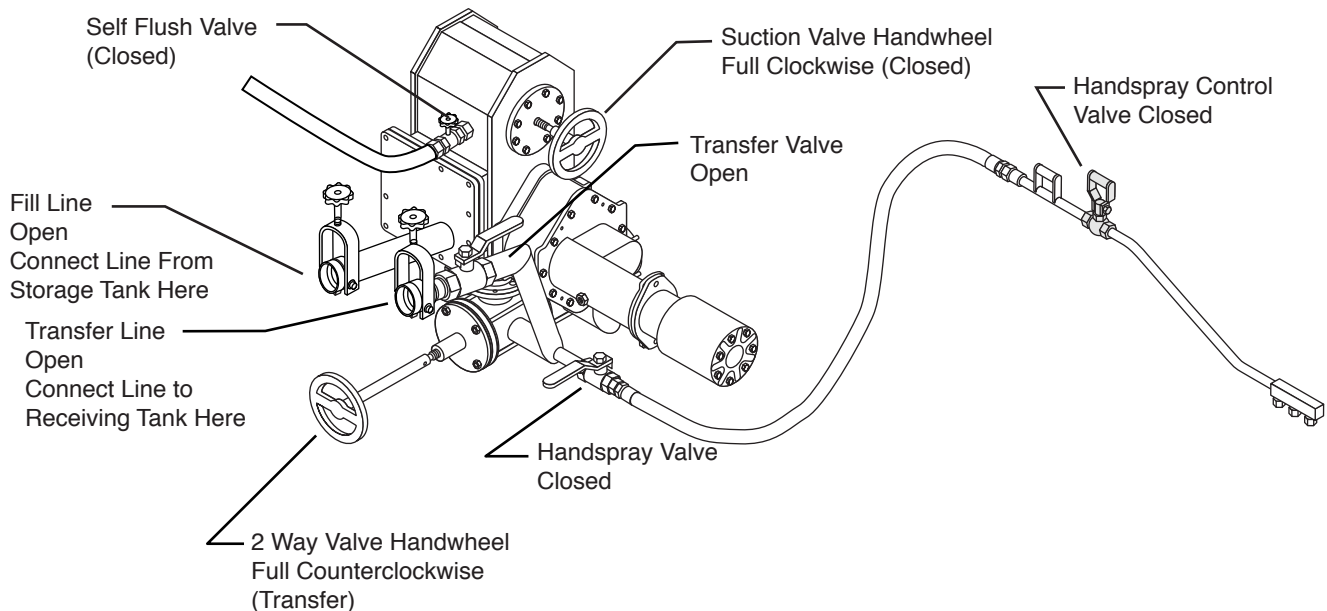

Figure 8 Valve Positions for Transfer Operation
2. Open the hand spray valve. (See Figure 8)
7. Set all of the valve positions (see Figure 8).